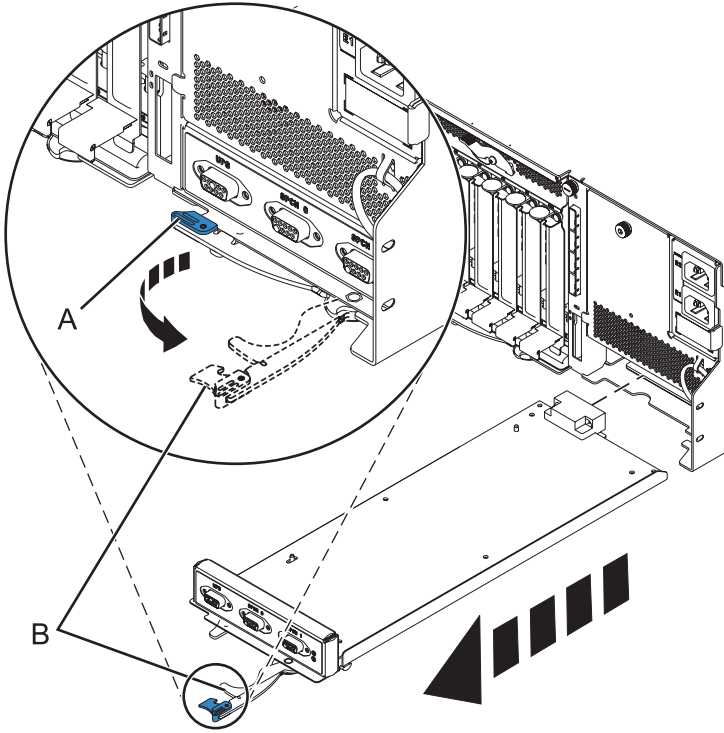

Figure 69. Remove the enclosure management controller
- b. Pinch the latch (A) to unlock the handle (B). See Figure 69 on page 90.